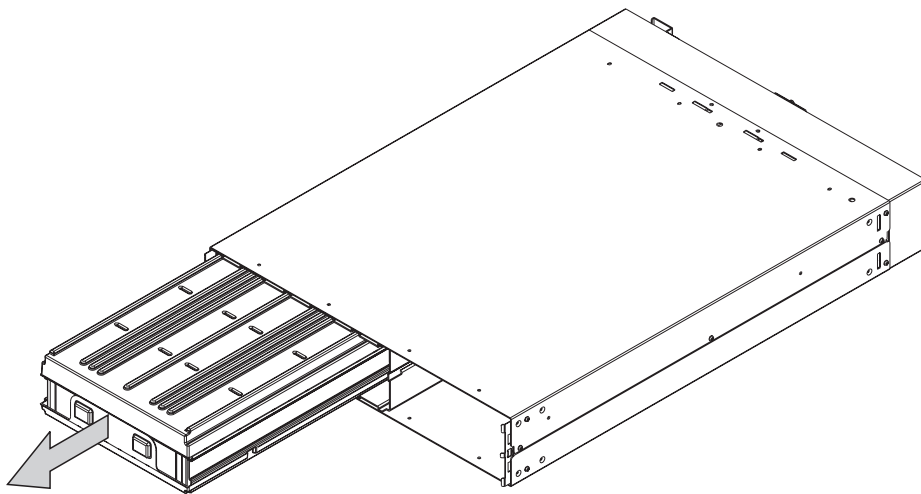

Figure 309. Removing the 2145 uninterruptible power supply battery
4. Remove the battery plate, to access to the battery, as shown in Figure 309.